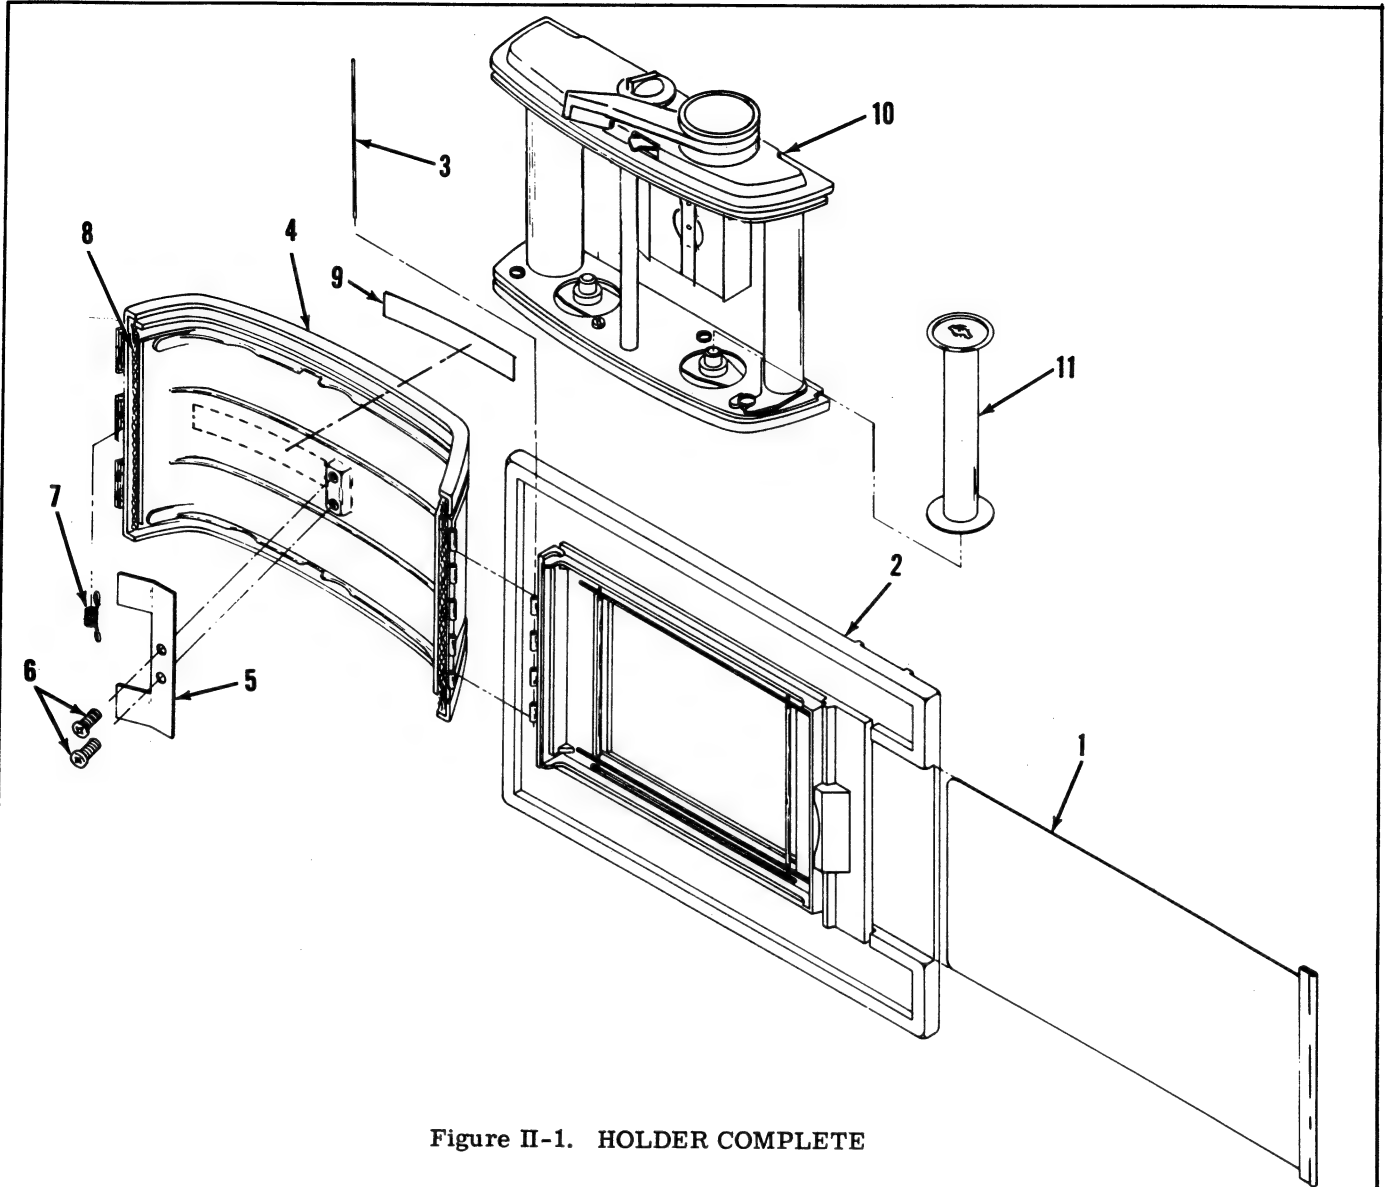

Figure II-1. HOLDER COMPLETE
Refer to figure II-1 for disassembly of the Roll Holder Complete. Refer to figure II-2 stages 1, 2 and 3 for disassembly of the Carriage Complete.
26. Slide carrier assembly (9) over post of pinion (40) and center spring (10) directly beneath it. Place upper loop of spring around long stud on underside of carrier assembly. Push carrier assembly down and turn counterclockwise approximately 45° until long stud on underside of carrier assembly is in past pawl pivot. Hold in position.
27. Assemble washer (8), sun pinion (7) on pinion (40) and retain in place with retaining ring (6).
28. Place ring gear (5) down around outside of carrier assembly. Push pawl in toward pinion (40) and insert a thin object through screw hole in carrier assembly where pawl now appears. Put pressure on pawl to hold it in this position; push ring gear down until it sits evenly on bearing plate. Hold ring gear down and release pawl.
29. Slide planet pinions (4) on posts of carrier assembly, engaging teeth of sun pinion and ring gear.
30. Place lever (2) in position with two flat sided holes engaging posts on carrier assembly. Push lock lever to release position and advance lever (2) until it is in front of its stop pin. Press down, directly over ring gear, until it is seated, and secure with two screws (3).
31. Reactivate cement on cap (1) and fasten into place.
a. With cam (24) and dial (11) disengaged (beyond position (20), rotation of dial in direction of arrow must engage cam after passing second "click" position.
b. Lever (2) must stop in each numbered position and be released by moving lever (29) in direction of arrow. Do not force return of lever to lock position.
c. When mounted in frame assembly, lever (2) must index between exposure stops with a maximum force of 9 inch-ounces of torque with a simulated or real film load.
33. Reassembly - Cover and Frame (Figure II-1)
a. Center pin (3) in hinge and pinch hinge over both ends to secure.
b. Cover (4) must hinge freely and latch securely (both catches). Latch must not release when only one catch is operated and must release easily when both catches are operated simultaneously.
Light seal (s) (8, Fig. II-1) damaged.	Replace.